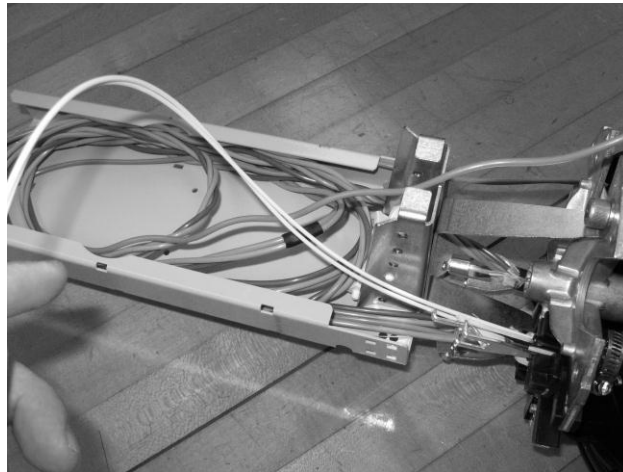

Figure 23 – Store the active tubes in the slack storage basket.
5.11 Store one wrap of the active buffer tube and one wrap for each of the drop-cable buffer tubes in the slack storage basket (Figure 23).